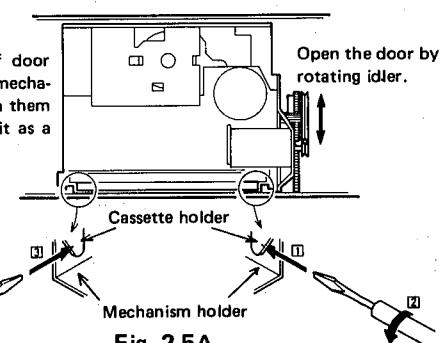

Fig. 2-5A
- 2) Remove one screw ⑥ retaining the door damper.
- 3) Remove two screws ③ retaining the mechanism ass'y from bottom side.
- 4) Remove two screws ⑦ retaining the mechanism assembly at top side.
- 5) Remove one screw ⑤ retaining the door motor bracket.
- 7) In order to detach the cassette holder, disengage the shafts to the cassette holder arms from the mechanism holder. (Use an ordinary (-) screw driver as shown in Fig. 2-5A.)